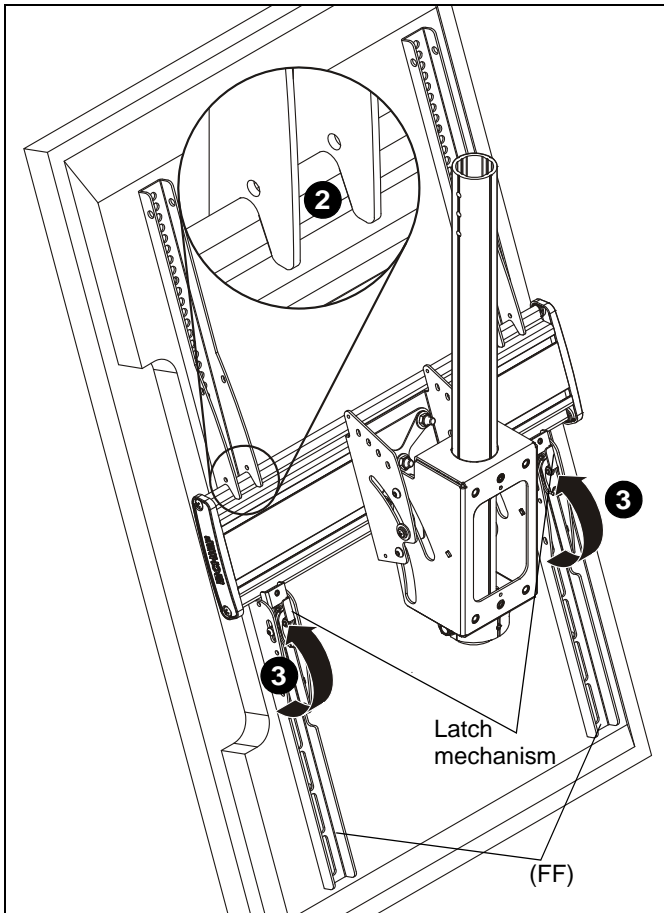

Figure 7
2. While supporting both sides of display, lower display onto ceiling mount, hooking top of interface brackets onto front of ceiling mount. (See Figure 7)
3. Raise the latch mechanism on both interface brackets to lock bracket in place. (See Figure 7)